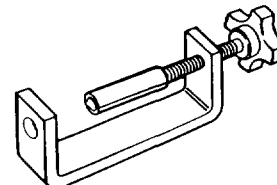

Fig. 2
5. Remove locknut (17) from slave piston adjusting screw (18) and back out screw until the slave piston is fully retracted.
6. Install the slave piston tool P/N 017397 (Fig. 2) with the adjusting screw fitted into the hole in the tool.
7. Compress the slave piston spring and remove the retaining ring (26).
8. Remove the retainer (25), spring, slave piston and adjusting screw.